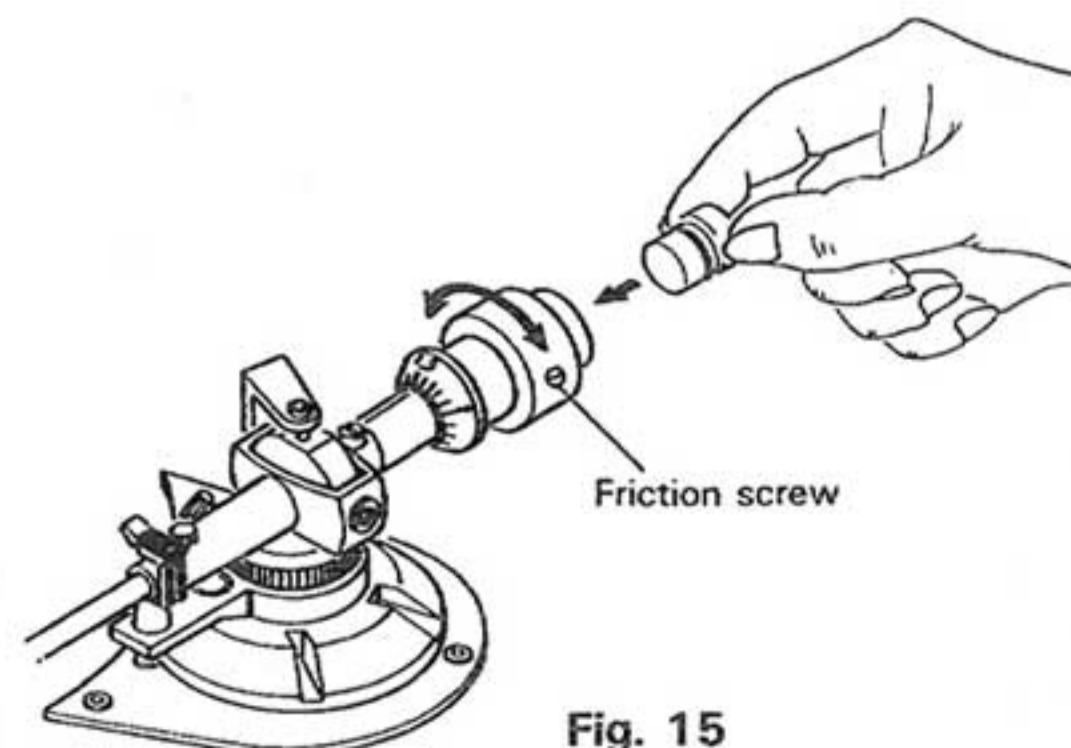

Fig. 15
- When the arm is not zero-balanced, loosen the counterweight friction screw (Fig. 15) and move the counterweight.
- With an accessory S-shaped arm pipe, adjust the zero-balance by adding an accessory sub-weight to the weight shaft ass'y as shown in Fig. 15, because this arm pipe is heavier.